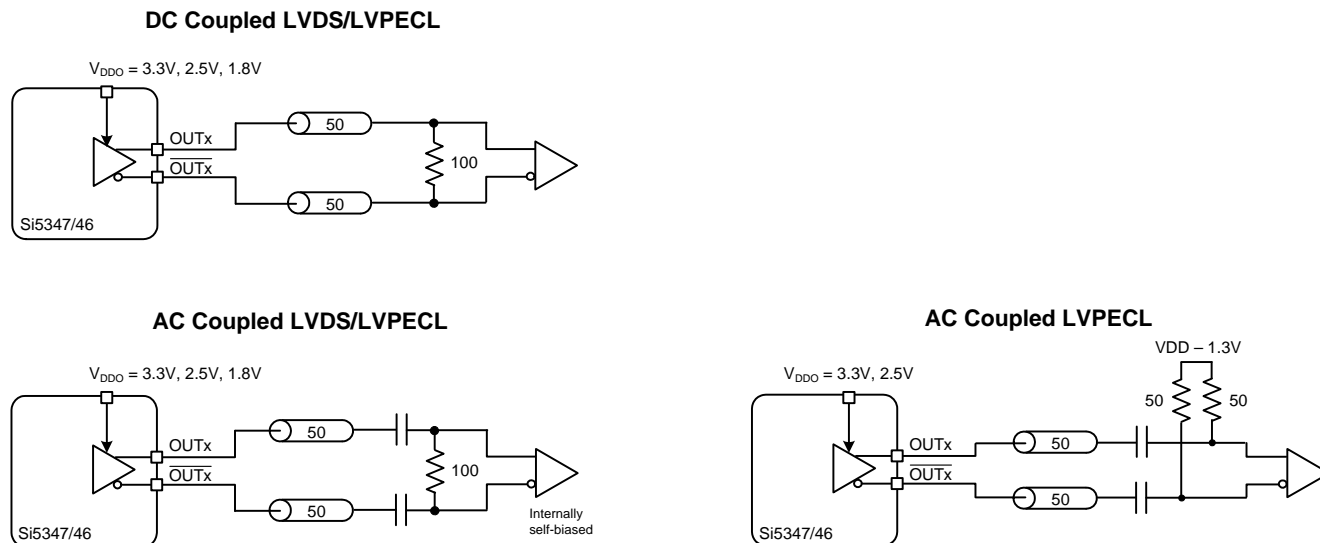

Figure 19. Supported Differential Output Terminations
The differential output drivers support both ac coupled and dc coupled terminations as shown in Figure 19.
- Differential Normal Swing Mode:** When an output driver is configured in normal swing mode, its output swing is selectable as one of 7 settings ranging from 200 mVpp_{se} to 800 mVpp_{se} in increments of 100 mV. The output impedance in the Normal Swing Mode is 100Ω differential. Any of the terminations shown in Figure 19 is supported in this mode.
- Differential Low Power Mode:** When an output driver is configured in low power mode, its output swing is configurable as one of 7 settings ranging from 400 mVpp_{se} to 1600 mVpp_{se} in increments of 200 mV. The output driver is in high impedance mode and supports standard 50 Ω PCB traces. Any of the terminations shown in Figure 19 is supported in this mode.